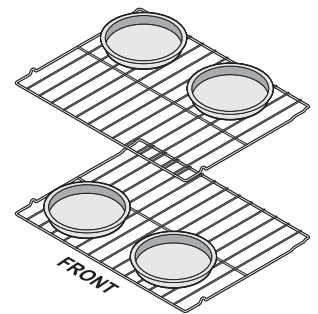

Figure 22: Pan spacing
- When baking using two oven racks, position cookware as shown in Figure 22. Allow at least 2 inches (5 cm) of space between cookware for proper air circulation.